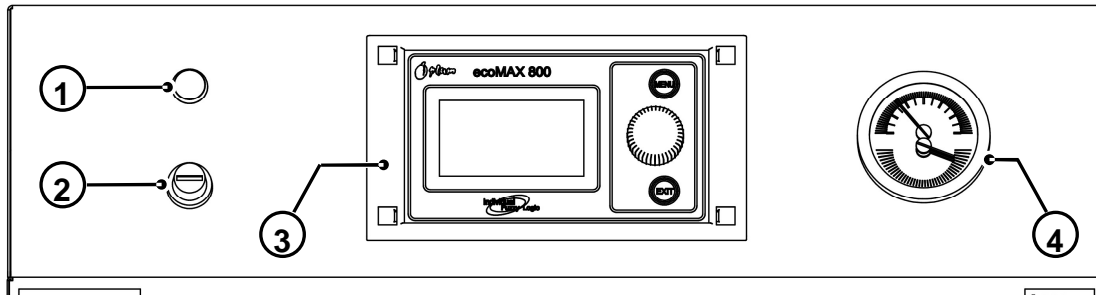

Fig. 2.3 Controller - front view
Figure 2.3 outlines the elements of the control system. The Regulator Panel (3) is used to set parameters.